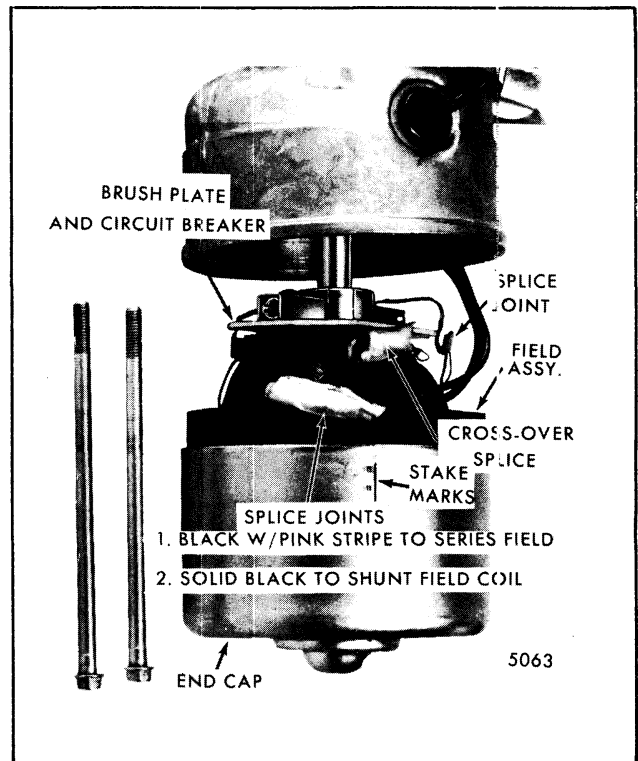

Fig. 2-40-Field and End Cap Assembly
3. Feed exposed excess length of motor leads through the casting grommet and carefully back the case and field assembly plus the armature away from the casting (Fig. 2-40).